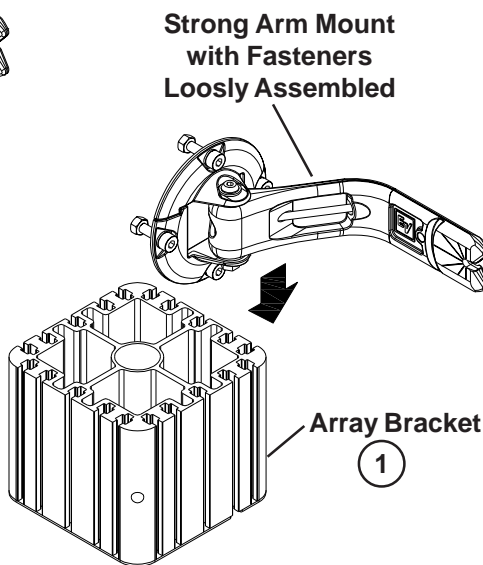
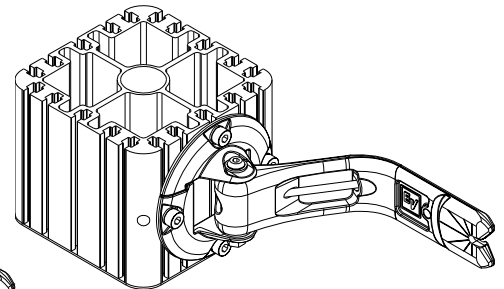

Figure 4b:
Figure 4c:
3. Slide the (4) nuts into the appropriate channels on the array bracket (Item 1) until approximately centered (Figure 4b). Securely tighten the bolts using a 3/16" hex wrench (Figure 4c).